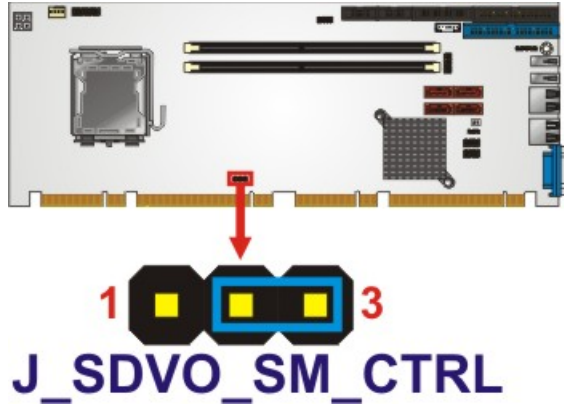

Figure 3-17:SDVO Connector Pinout Locations
- CN Location:** See **Figure 3-17**